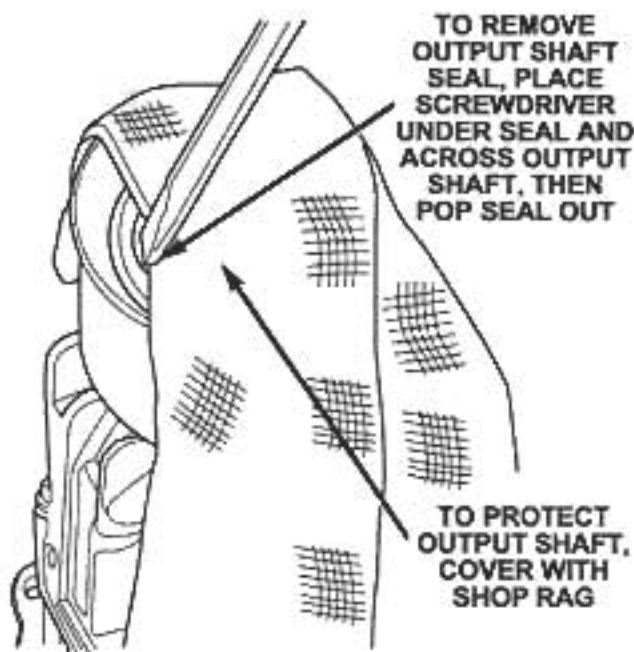

Figure 14
33. Carefully remove the output shaft seal. To remove the seal, place a flat bladed screwdriver under the seal with the screwdriver shaft resting on the extension housing cuff. Remove the seal by quickly hitting the screwdriver handle and popping the seal from its seat (Figure 14).